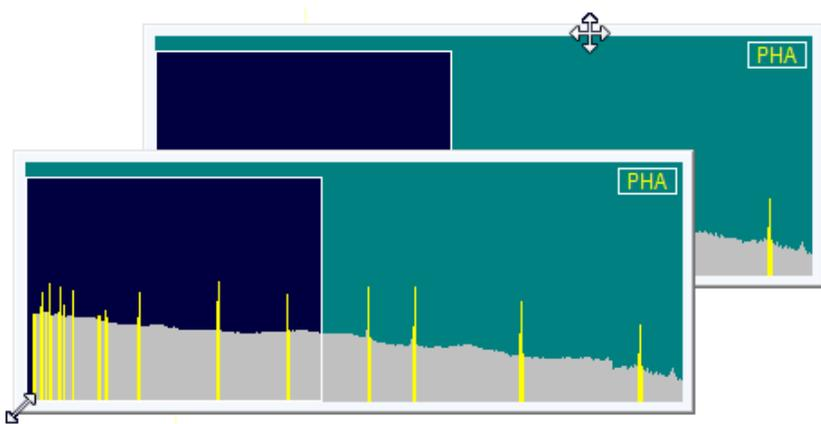

Figure 9. Two-Sided Pointer for Sizing Full Spectrum View, and Four-Sided Pointer for Moving Window.
- **Resizing** — Roll the mouse pointer over the side edge, bottom edge, or corner of the window until the pointer changes to a double-sided arrow (see Fig. 9). Click and drag the edge of the window until it is the size you want, then release the mouse button.
- **Moving** — Roll the mouse pointer onto the top edge of the window until the pointer changes to a four-sided arrow (see Fig. 9). Click and drag the window to its new location, and release the mouse button.